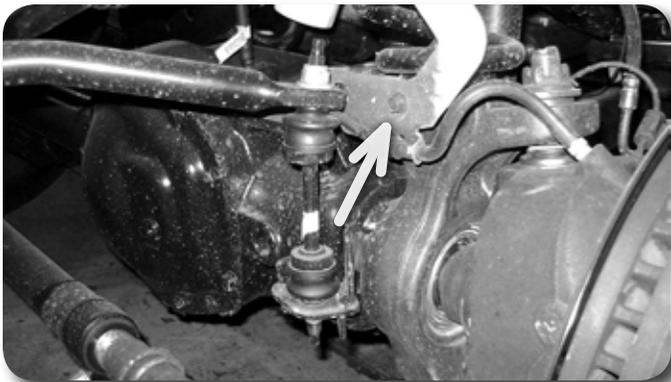
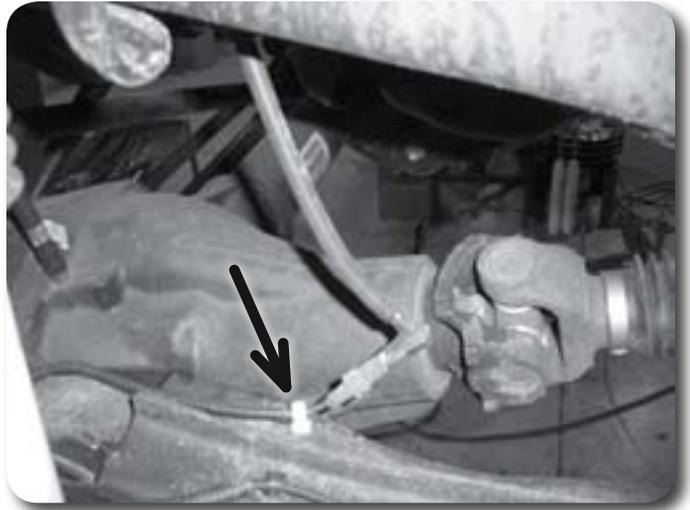

Figure 3
Figure 4A
7. Disconnect the front brake line brackets from the axle Figure 3. Save hardware. Remove the front axle hub vacuum lines retaining clips from the axle/radius arm. Figure 4A,B